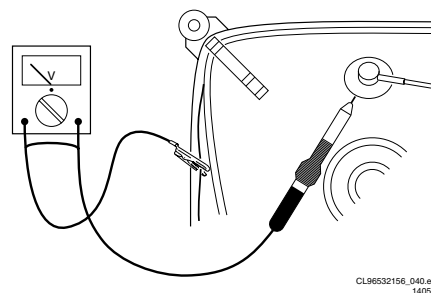

Figure 2-1 Discharge picture tube
- In order to prevent damage to ICs and transistors, avoid all high voltage flashovers. In order to prevent damage to the picture tube, use the method shown in Fig. 2-1, to discharge the picture tube. Use a high voltage probe and a multi-meter (position Vdc). Discharge until the meter reading is 0 V (after approx. 30 s).